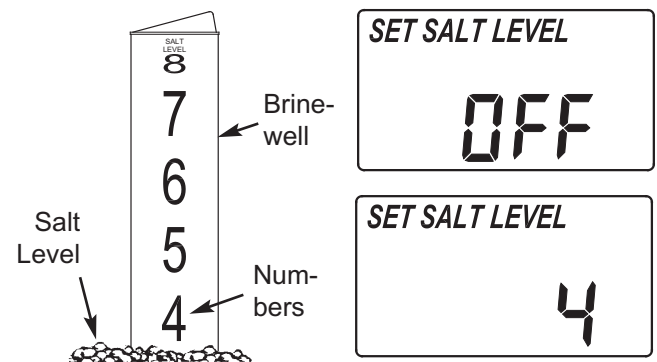

FIG. 34
2. The salt level scale, on the brinewell inside the tank, has numbers from 0 to 8 (See Fig. 34). Observe the highest number the leveled salt is at, or closest to.